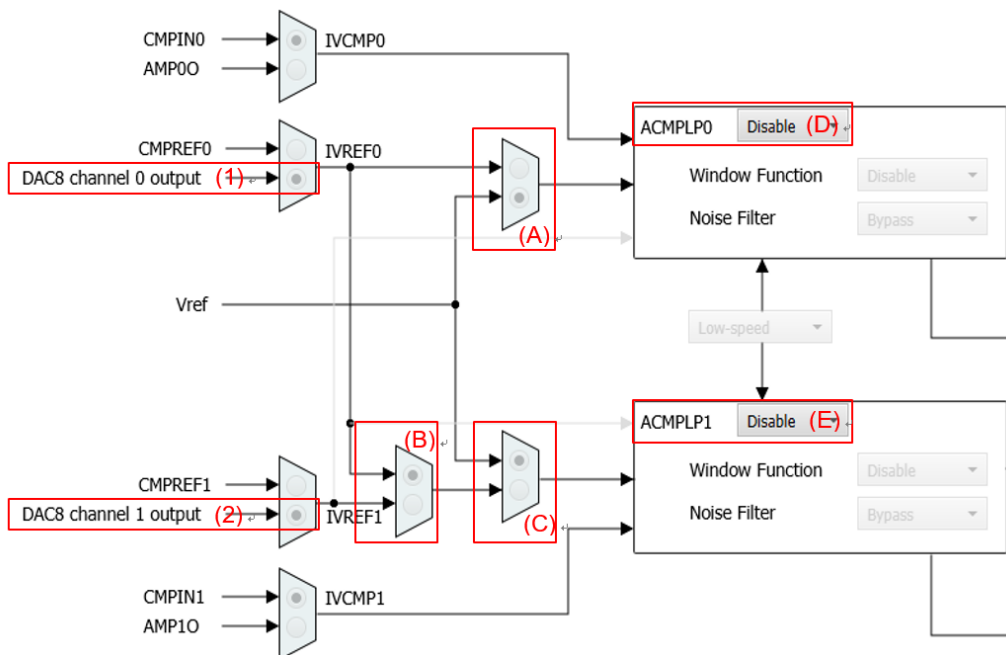

Figure 3-5 ACMPLP1 example setting
- “DAC8 channel 0 output” is selected as ACMPLP0 input (refer to figure3-5 (1))
- When switcher (A) selects Vref (refer to figure3-5 (A))
- When ACMPLP0 is disabled (refer to figure3-5 (D))
- When switcher (B) selects IVREF0, switcher (C) selects Vref (refer to figure3-5 (B) and (C)) and ACMPLP1 is enabled (figure3-5 (E) selects “Enable”)
In above ACMPHS setting, figure 3-5 (1) setting is invalid. So please change figure 3-5 (1) from "DAC8 channel 0 output" to "CMPREF0".
- "DAC8 channel 1 output" is selected as ACMPHS1 input (refer to figure3-5 (2))
- When switcher (B) selects IVREF0 (refer to figure3-5 (B))
- When switcher (C) selects Vref (refer to figure3-5 (C))
- When ACMPHS1 is disabled (refer to figure3-5 (E))
In above ACMPHS1 setting, figure 3-5 (2) setting is invalid. So please change figure 3-5 (2) from "DAC8 channel 1 output" to "CMPREF1".